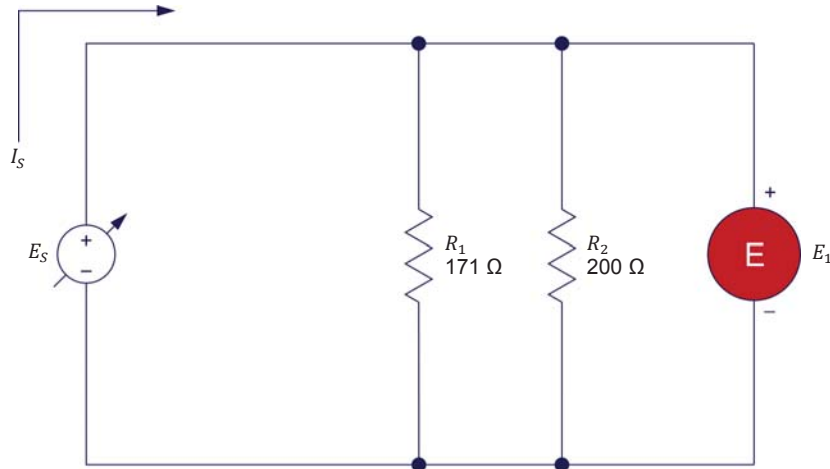

Figure 27. Measuring power in a circuit with resistors in parallel.
- 25.** Set up the circuit shown in Figure 27. To obtain the resistor arrangement of Figure 27, make the necessary connection(s) and switch settings on the **Resistive Load** module.
Set a multimeter to measure dc voltage and connect it across resistors R_1 and R_2 , as Figure 27 shows.